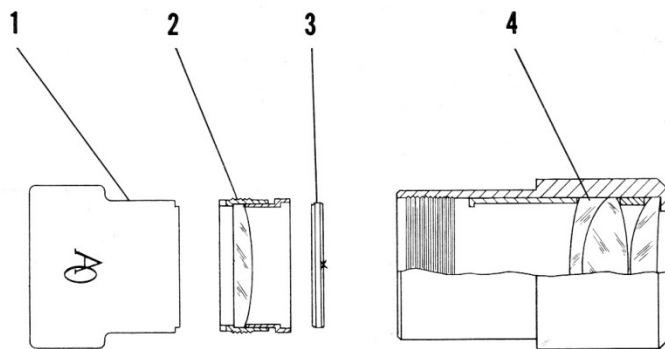

Figure 2. 10X Eyepiece - Catalog No. 146
To insert a reticle into 10X eyepiece, remove field lens assembly (2, Fig. 2) as indicated in the above diagram. Do not completely disassemble the eyepiece. Insert reticles (3) ruling "up", into reticle retaining cell of the field lens assembly (2) and reassemble. Use care to keep lenses clean. Should cleaning become necessary, see "Use and Care" section for cleaning instructions.